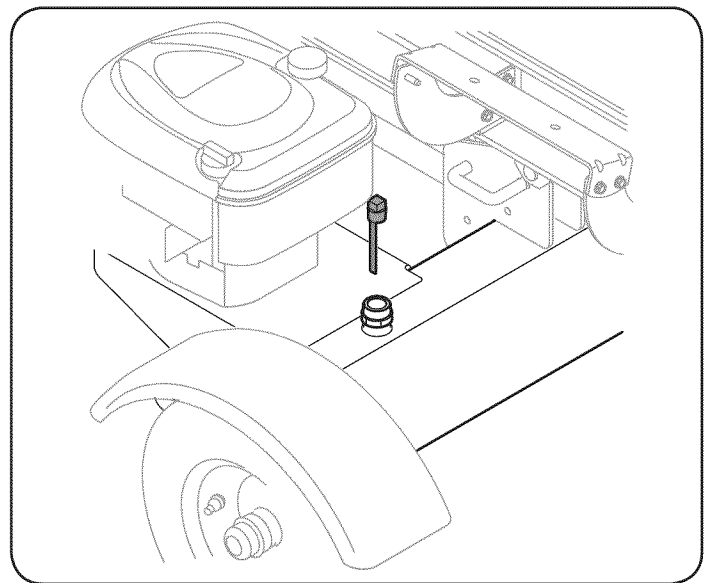

Figure 8
2. Remove the vented reservoir dipstick, which is located in front of the engine on top of the reservoir tank. See Figure 8.
3. Check the fluid level using the dipstick. See Figure 8. Do not overfill.